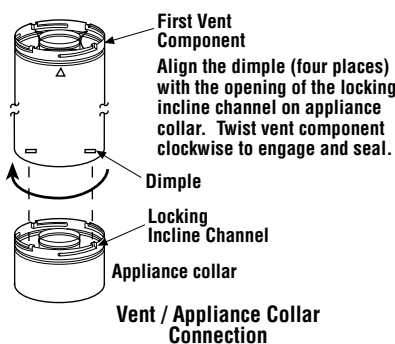

Figure 21
B. Attach vent components to appliance - Secure Vent SV4.5 direct vent system components are unitized concentric pipe components featuring positive twist lock connections (see Figures 21 and 22).
To attach a vent component to the appliance collar, align the dimpled end over the collar, adjusting the radial alignment until the four locking dimples are aligned with the inlet of the four inclined channels on the collar (refer to **Figure 21**). Push the vent component against the collar until it fully engages, then twist the component clockwise, running the dimples down and along the incline channels until they seat at the end of the channels. The unitized design of the **Secure Vent** components will engage and seal both the inner and outer pipe without the need for sealant or screws. If desired a #6 x 1/2" screw may be used at the joint, but it is not required as the pipe will securely lock when twisted.